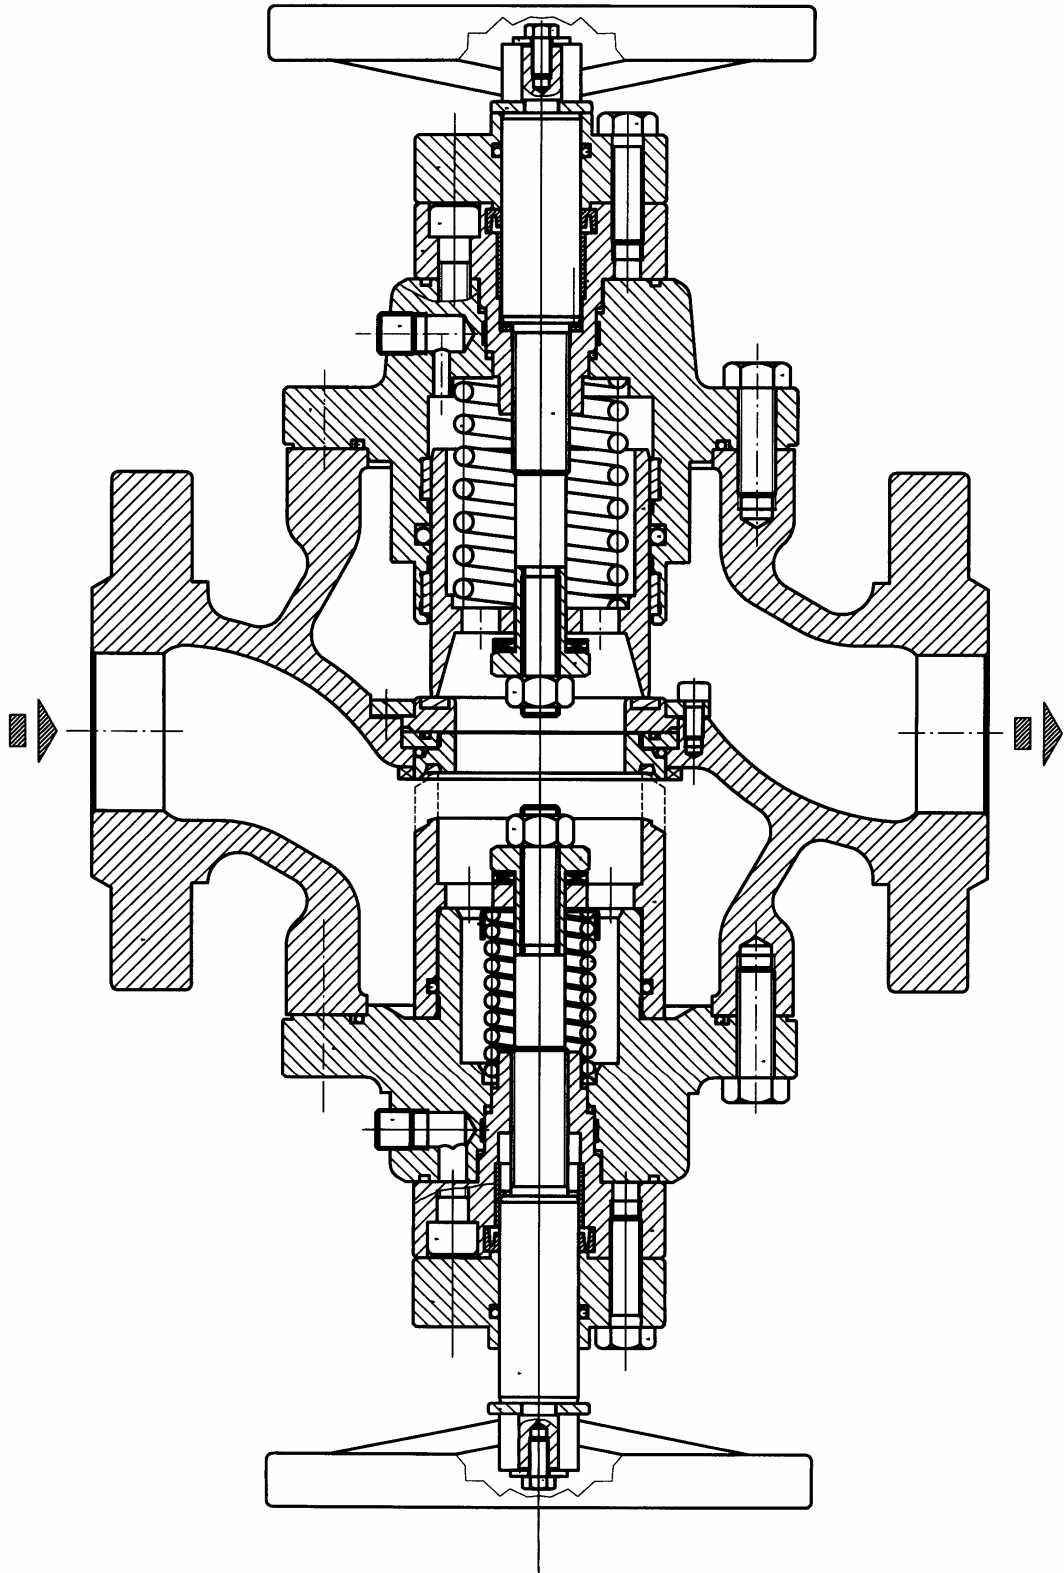

Figure 3
- second shutter in series with the main shutter ( see figure 3 ).